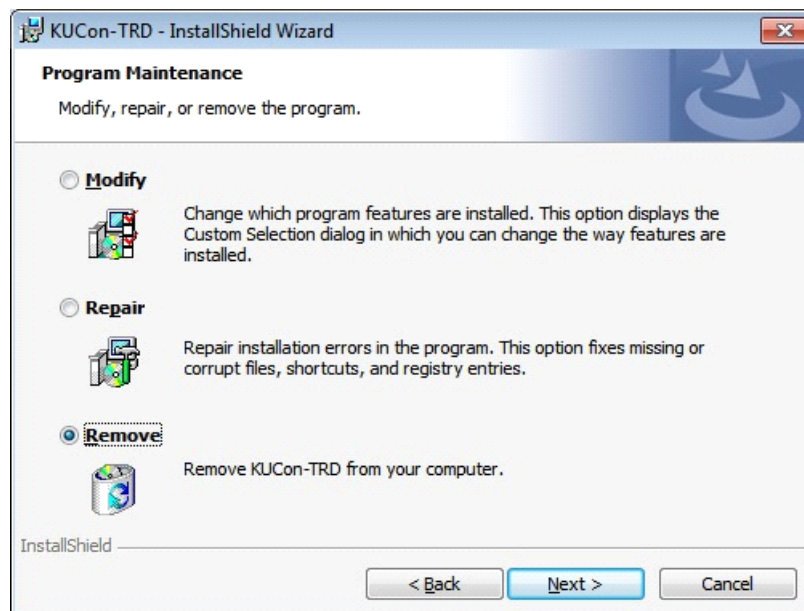

Figure 3-21: InstallShield Wizard - Remove Drivers Selection
3. Select **Remove** and click **Next** to proceed (see Figure 3-21).